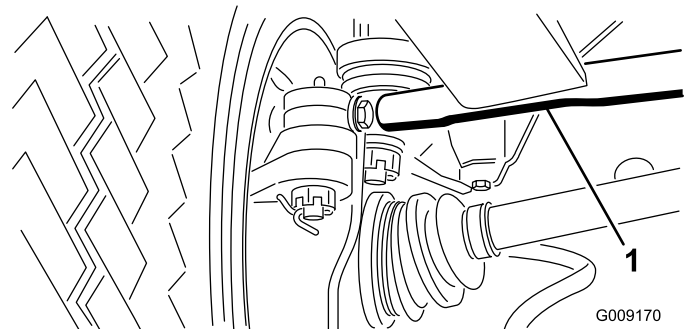

Figure 57
- On the right front wheel, loosen the jam nuts at both ends of the tie rod (Figure 57).